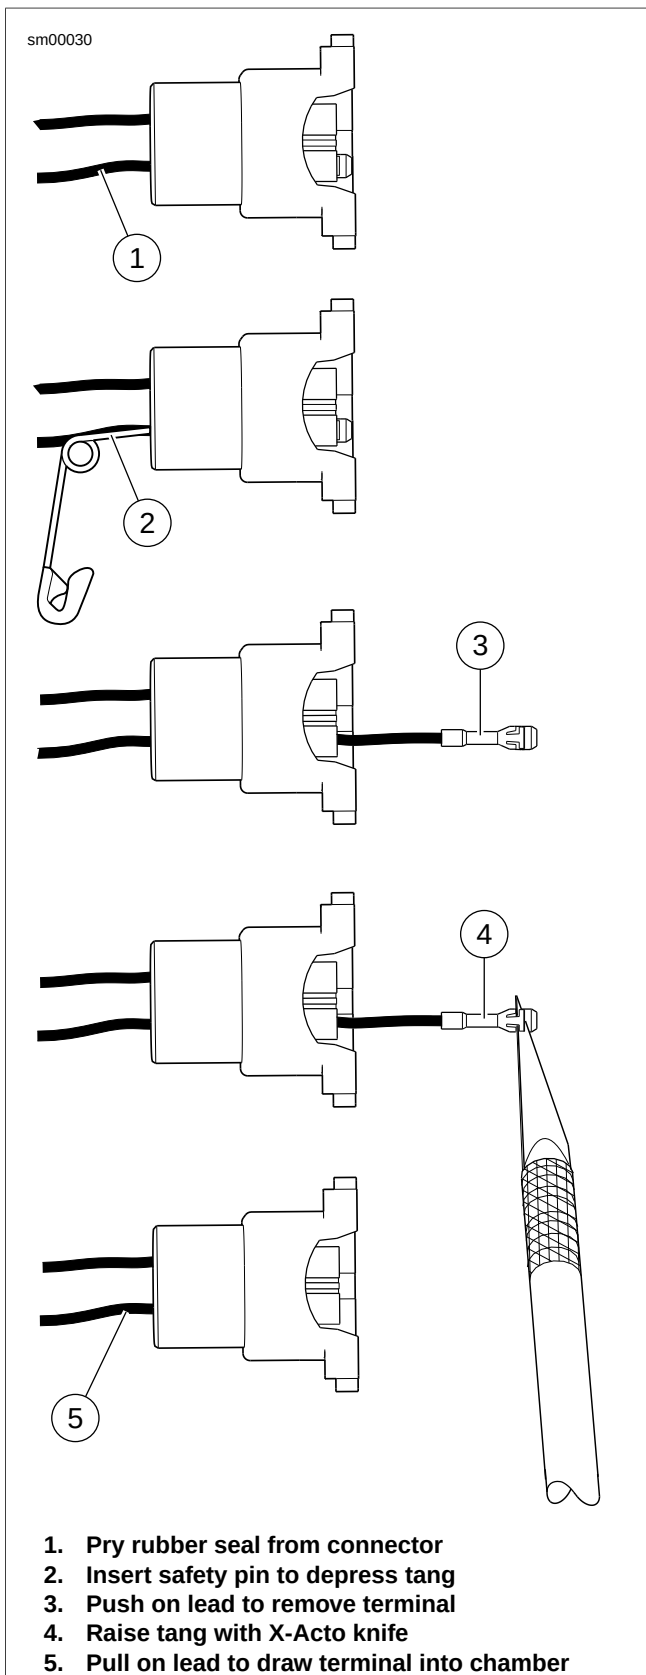

**Figure A-28. 280 Metri-Pack Connector: Remove/Install
1. See Figure A-28. Pry rubber seal from wire end of connector and move seal down wires (1) toward conduit. Hold the connector so that the wireform is facing down.
2. Looking into the wire end of the connector, insert the point of a safety pin (2) between the top of the terminal and the inside chamber wall.
1. See Figure A-28. Using a thin flat blade, like an X-Acto knife (4), carefully bend the tang outward away from the terminal body.
2. Gently pull on the wire lead (5) to draw the terminal back into the chamber. The tang faces opposite the wireform as it enters the chamber.